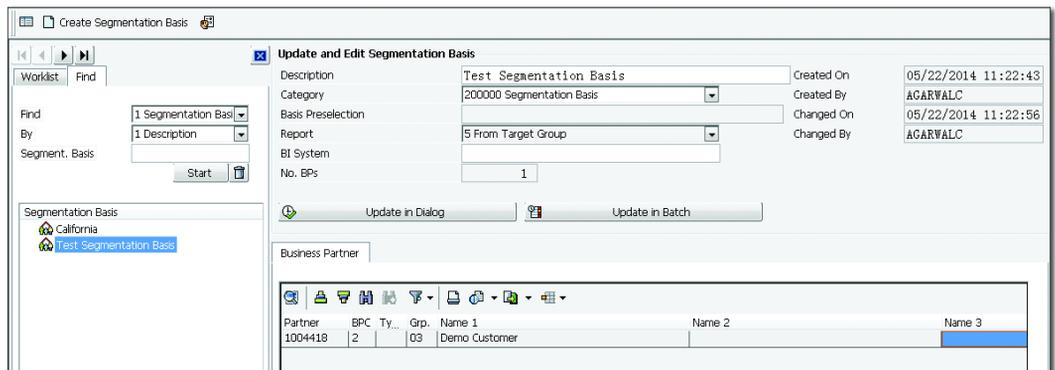

Figure 5.67 Creating a Segmentation Basis from Transaction CRMD_MKTSEG_MGR
4. You can also create the segmentation basis via SPRO • CUSTOMER RELATIONSHIP MANAGEMENT • MARKETING • SEGMENTATION • CLASSIC SEGMENTATION • DEFINE SEGMENTATION BASIS. Figure 5.67 shows the creation of the segmentation basis from Transaction CRMD_MKTSEG_MGR.